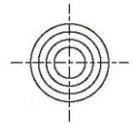

Fig. 2
2. Even if the clamp is overloaded to 120%, the cut-in depth will only be about 0.2 to 0.5 mm (differs depending upon the capacity), which is about one half that of a general clamp. Also, the tooth profile is circular, so harmful pressure marks are not left on the suspension load, thus ensuring peace of mind. (Refer to Fig. 2.)